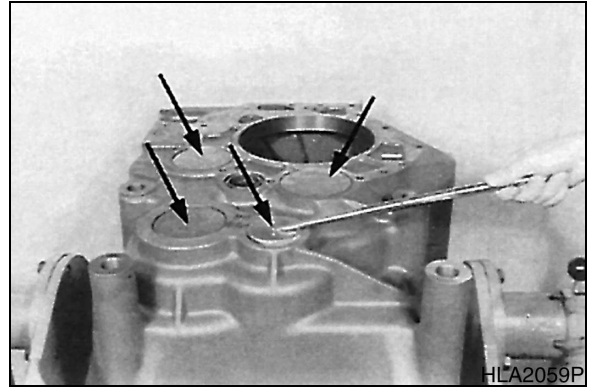

Figure 95
5. Remove sealing covers (Figure 95).